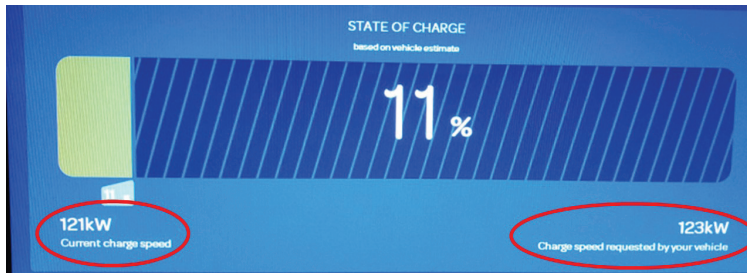

Figure 9
- The user interface installed on certain Electrify America kiosks provides charge rate information that may be misleading to customers. (Figure 9)